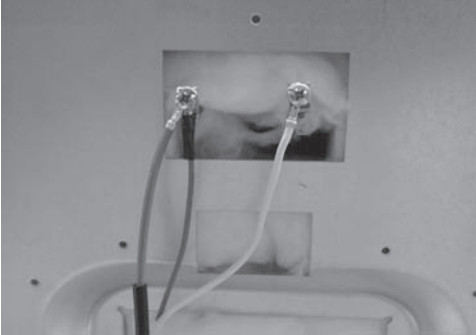

Fig. O-5
3. Disconnect the wires by removing (2) nuts from element (**Fig. O-5**)